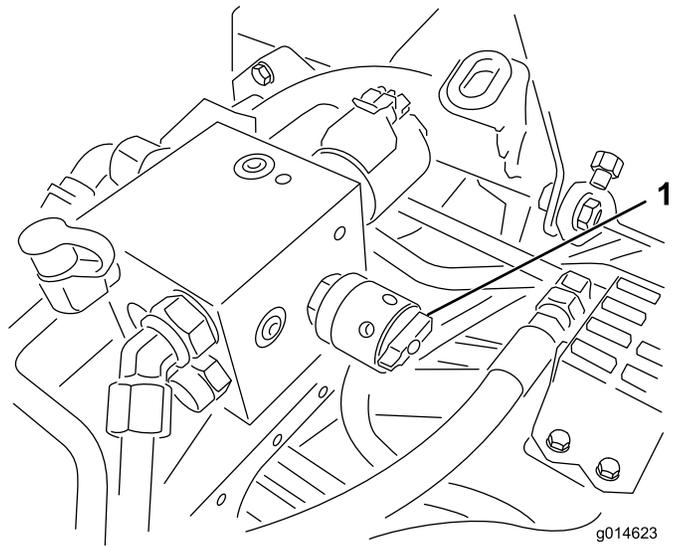

Figure 49
4. Adjust the reel speed by rotating the knob (Figure 49) until the indicator arrows are in line with the number you determined in step 3.